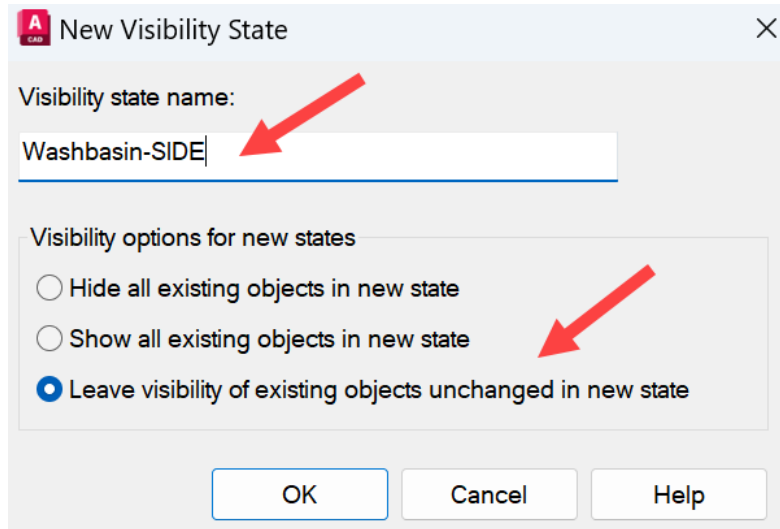

Figure 12.26: The New Visibility State dialog box with settings arrowed
9. The **Visibility States** dialog box will display a default visibility state called **VisibilityState0**. Click on **New**, and in the **New Visibility State** dialog box, set the new state name to **Washbasin-SIDE**. Set the visibility options to the third option, **Leave visibility of existing objects unchanged in new state**, as shown in *Figure 12.26*.